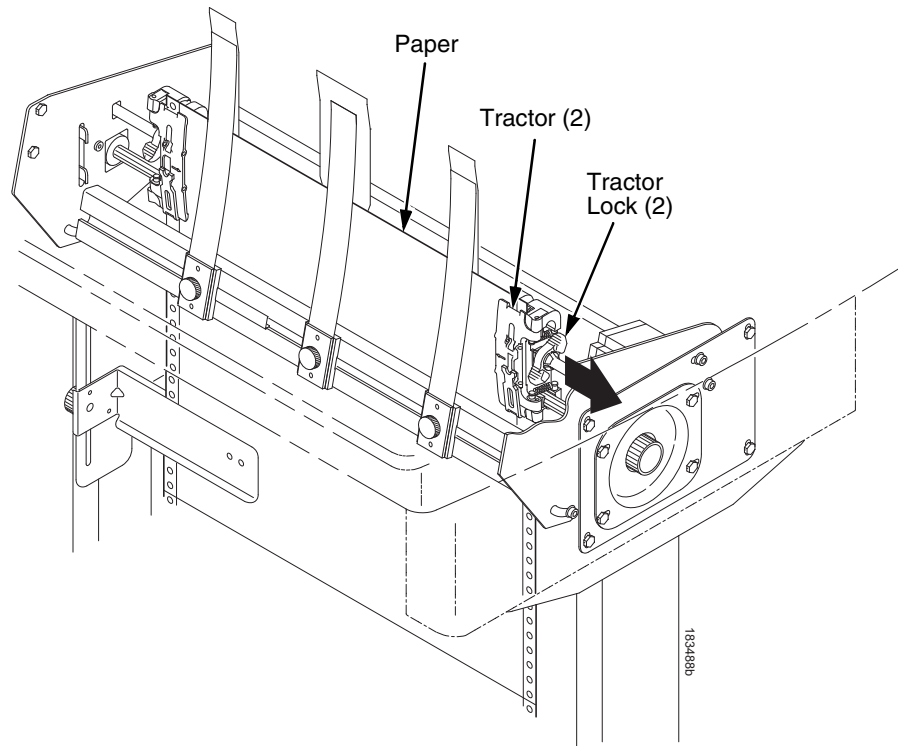

Figure 30. Adjusting the Horizontal Paper Tension
5. Adjust the paper web tightness by sliding the right tractor to remove slack or to adjust for various paper widths. (See Figure 30.)